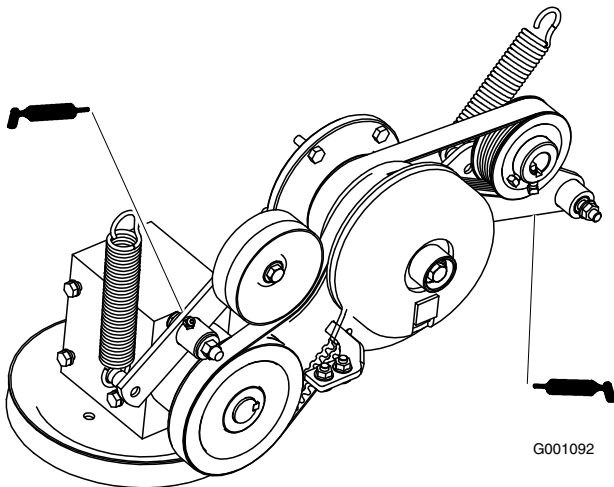

Figure 30
5. Grease the PTO drive belt idler arm (Figure 30).
6. Grease the pump belt idler arm (Figure 30).